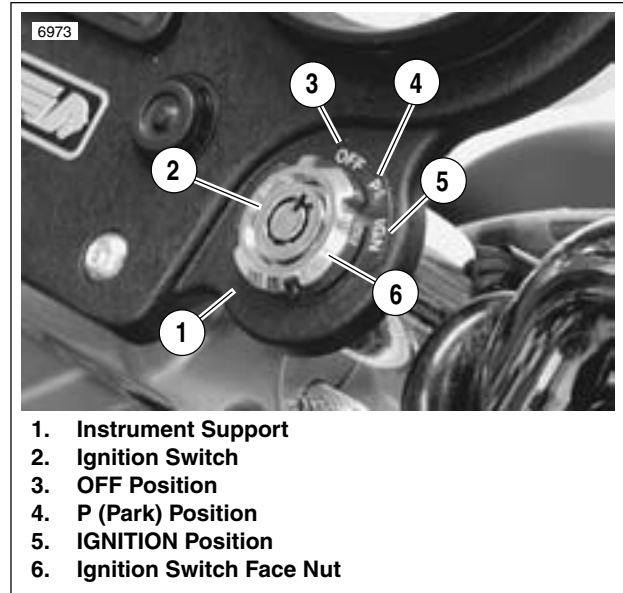
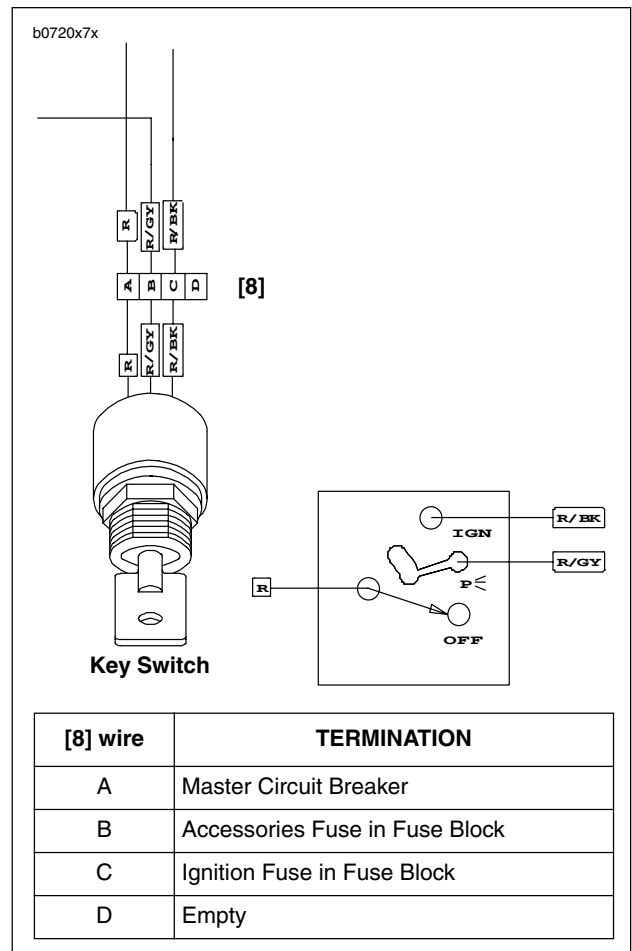

Figure 7-9. Ignition/Headlamp Key Switch
Figure 7-10. Ignition Key Switch Connector [8]
See Figure 7-9. The three-position combination ignition/headlamp key switch is not repairable. Replace the unit if it fails.
3. See Figure 7-10. Disconnect ignition key switch connector [8] from main wiring harness.
4. See Figure 7-9. Remove ignition switch face nut (6). Remove ignition key switch (2) from behind dash panel.
- a. See Figure 7-9. From behind dash panel, insert ignition key switch (2) into hole. The word "TOP" stamped on the switch body should face upward toward the lettering on the switch position decal.
- c. Loosely install face nut (6).
2. See Figure 7-10. Attach ignition key switch connector [8] to main wiring harness.
3. See Figure 7-9. Tighten face nut (6) to secure switch within bracket.